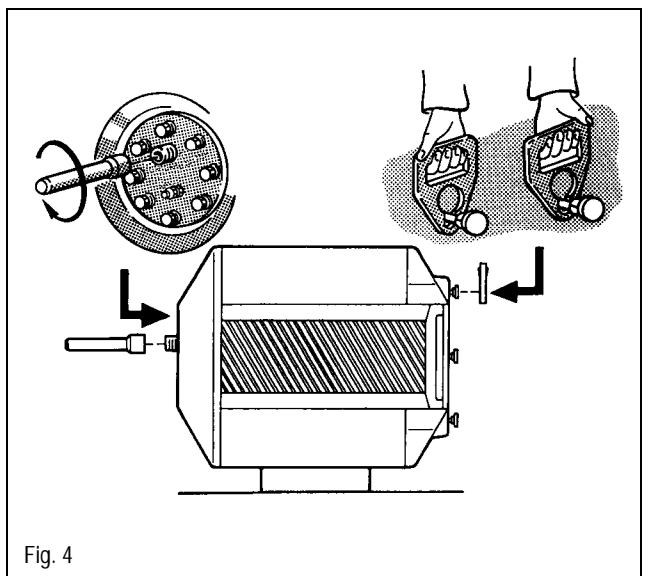

Fig. 4
**NOTE:** *The tank can be moved using the carry hooks (supplied) and a screw-in pipe nipple (not supplied) (fig. 4).*
- To carry tank, place the carry hooks over the two screw-in feet and lift up at the smaller thread of the tank feet (Fig. 4).
- Use a threaded nipple (not supplied) to lift the tank at the top clean-out cover (Fig. 4).